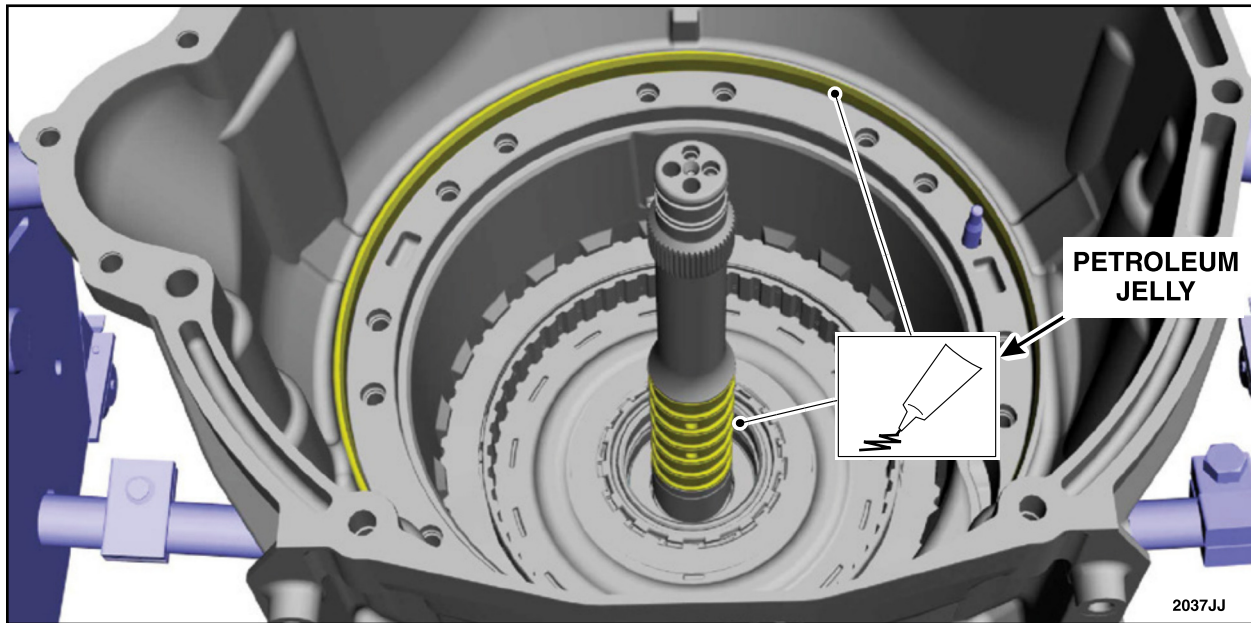

FIGURE 28
31. Lubricate the transmission case-to-front support sealing surface, and the Teflon® seals with petroleum jelly. See Figure 28.